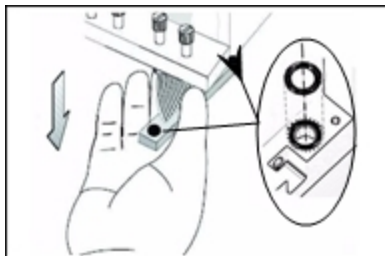

Figure 6-74 O-ring seals on the print head
14. Inspect the replacement head, and make sure that the O-ring seals are in place (see Figure 6-74 on the previous page).